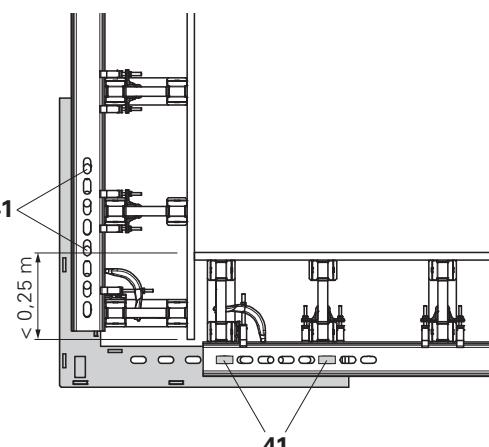

Fig. B4.04
4. Swivel Outside Corner Couplings one after the other into the steel waler and tightly connect (tension and compression) by means of the Wedge KZ (41). (Fig. B4.04)